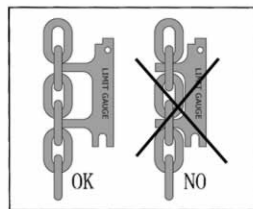
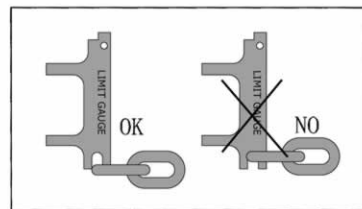

Fig. 6.3 Measure of internodal distance
Fig. 6.4 Measure of diameter
- (1) It is convenient to measure with chain gauge provided by the manufacturer.
- (2) As shown in Fig. 6.3 and Fig. 6.4, measure the chain internodal distance and diameter with the chain gauge.
- (3) Every link should be measured, and it must be replaced with a new one if any of the links is found to be abnormal.
- (4) The application of a worn, distorted, or extended chain may result in chain breakdown.
- (5) The replacement of the chain should be entrusted to a service station or a special agent manufacturer. Never replace it by yourself.
- (6) The chain must be replaced in a whole, no partial replacement is allowed.
- (7) If it is the second time to replace chain, the chain transmission core shaft, adjuster, guide wheel should be replaced at the same time.